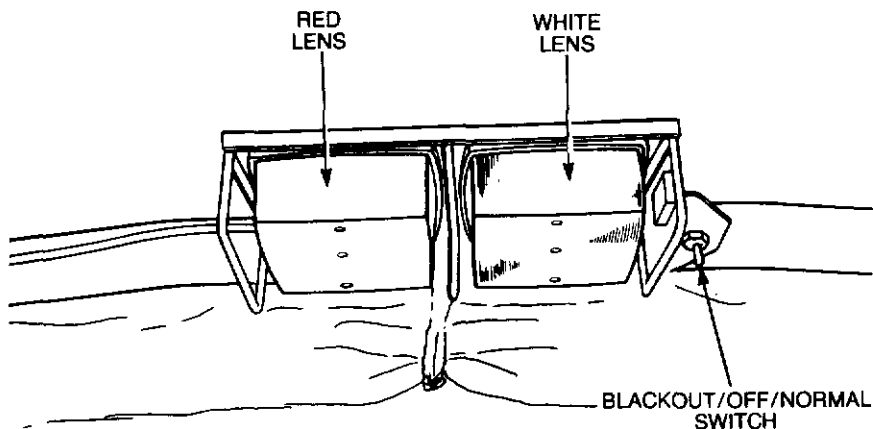

Figure 1-19 Rear dome lights
93. Rear dome lights (Fig. 1-19)